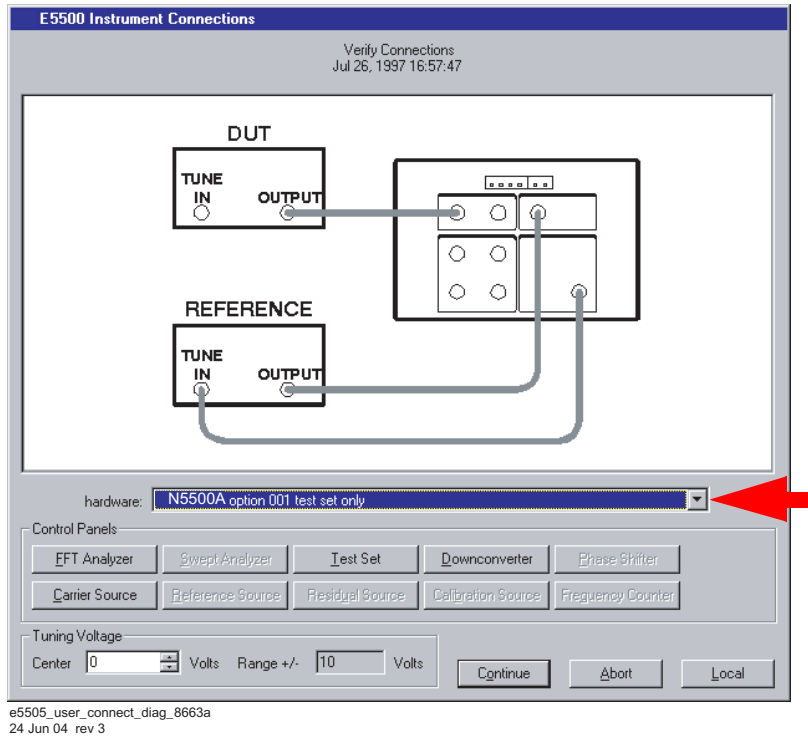

Figure 117 Connect diagram for the RF synthesizer (DCFM) measurement
- 3 When the **Connect Diagram** dialog box appears, click on the hardware drop-down arrow and select your hardware configuration from the list. See Figure 117.